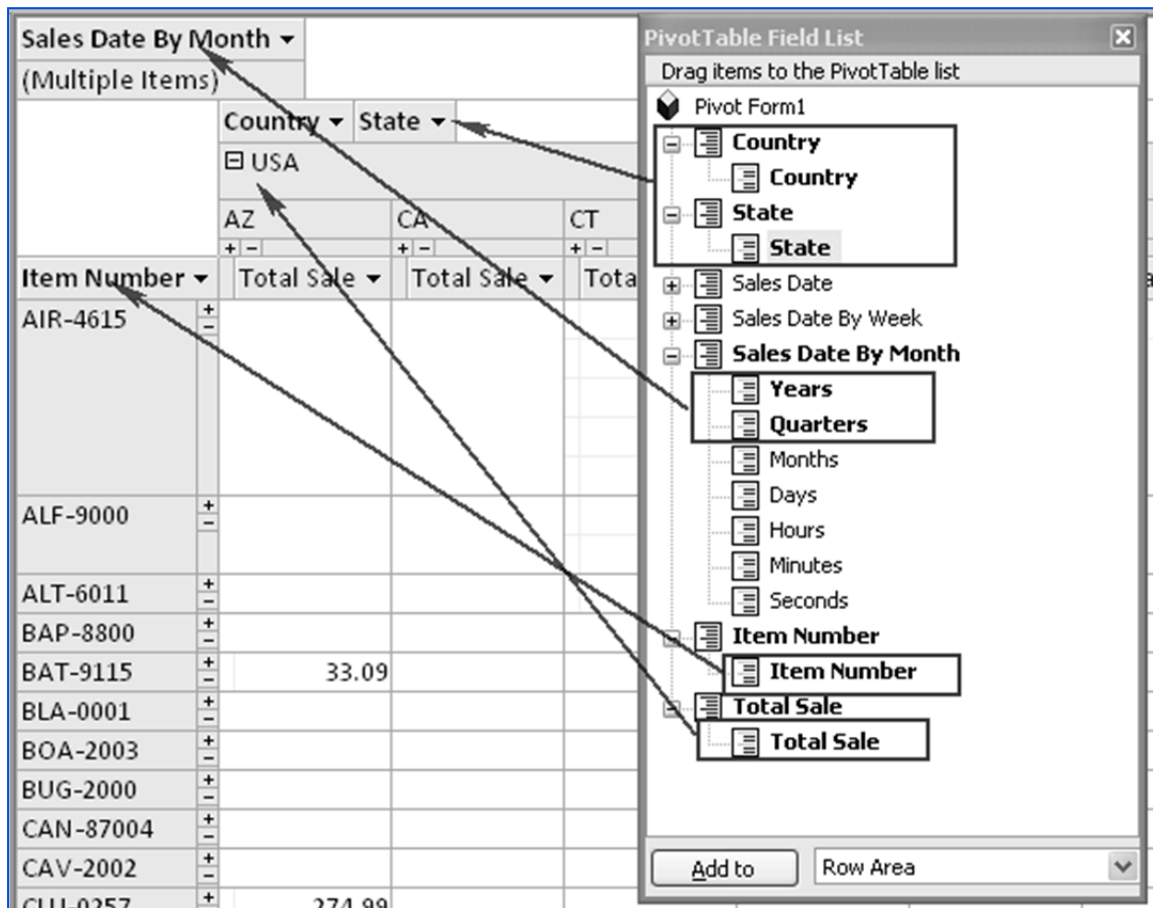

Fig. 2.3.18. Pivot Table window
- Open the plus sign of the field *Item Number* and drag the field to *Drop Row Fields Here*. Open the plus sign of *Country* and *State* drag *Country* and then *State* to *Drop Column Fields Here*. Similarly, open the plus sign for *Total Sale* and drag the column *Total Sale* to *Drop Totals or Detail Fields Here*, and open the plus sign of *Sales Date By Month* and drag the fields *Years* and *Quarters* to *Drop Filter Field Here*. The resultant *Pivot Table* window is shown in Fig. 2.3.18.